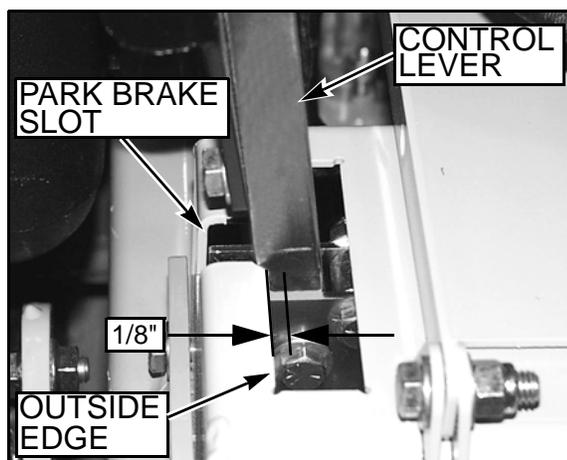

FIG. 26
5. Move the control lever to where it is just inside (1/8") the park brake slot FIG. 26.
9. Place the control lever in the park brake slot FIG. 26. The tire should not rotate when the control lever is in the park brake position.